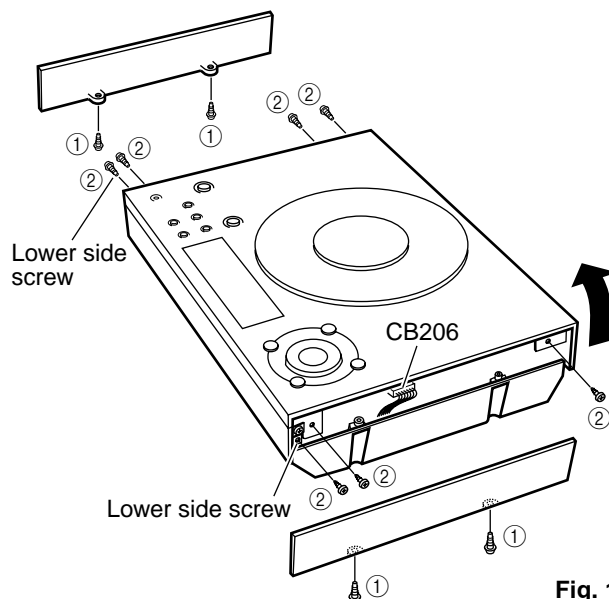

Fig. 1
- Remove 4 screws (①) to remove the side panels. (Fig. 1)
- Remove 7 screws (②).